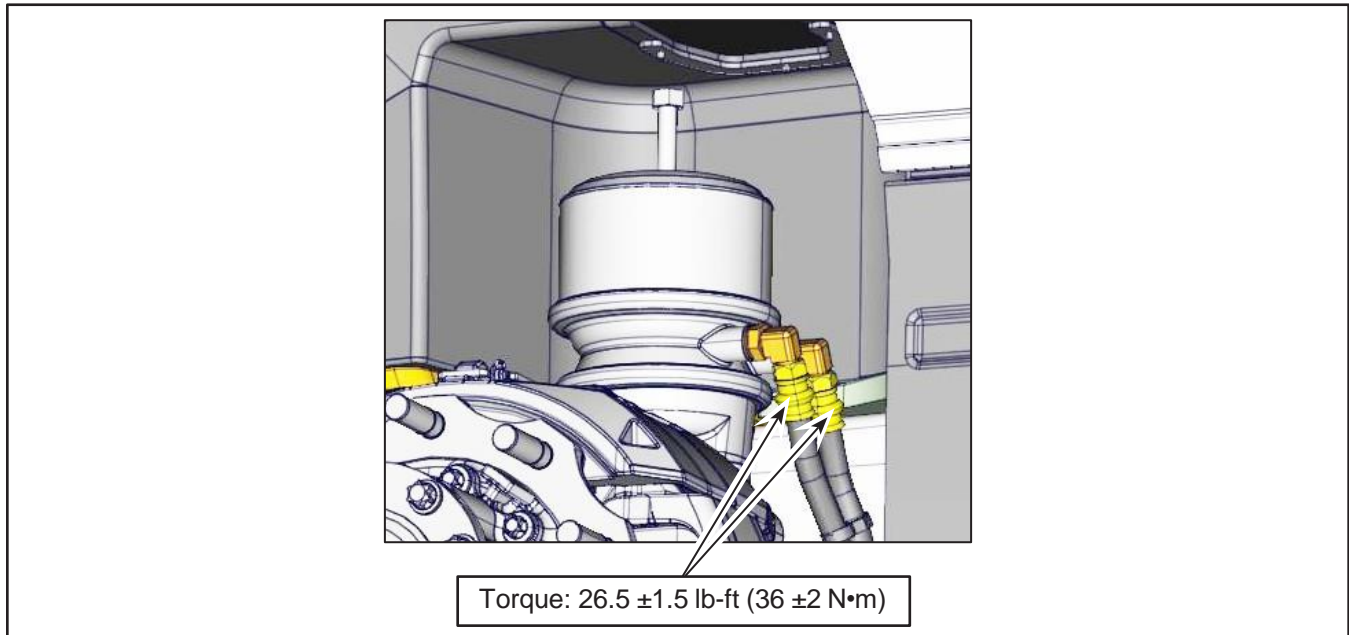

Figure 6 - Pneumatic Hoses Connections
- 2.14. Connect the air hoses to the brake chamber fittings. Check for kinks or misbends and tighten to  $26.5 \pm 1.5$  lb-ft ( $36 \pm 2$  N•m ) (Figure 6).